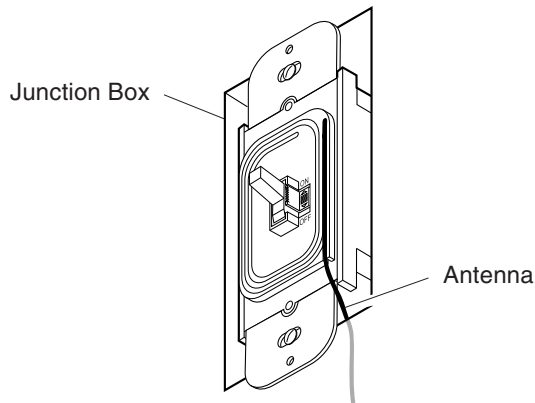

Figure 3 - Receiver's Antenna
14. Unwind the antenna on the receiver from its track. Route the antenna through the notch and fully extend it so that it hangs down inside the wall (see Figure 3). This will increase the range of the receiver. Reposition the transmitter at the desired location and make sure it operates the light. You may have to reposition the receiving antenna or the transmitter until the light works properly.